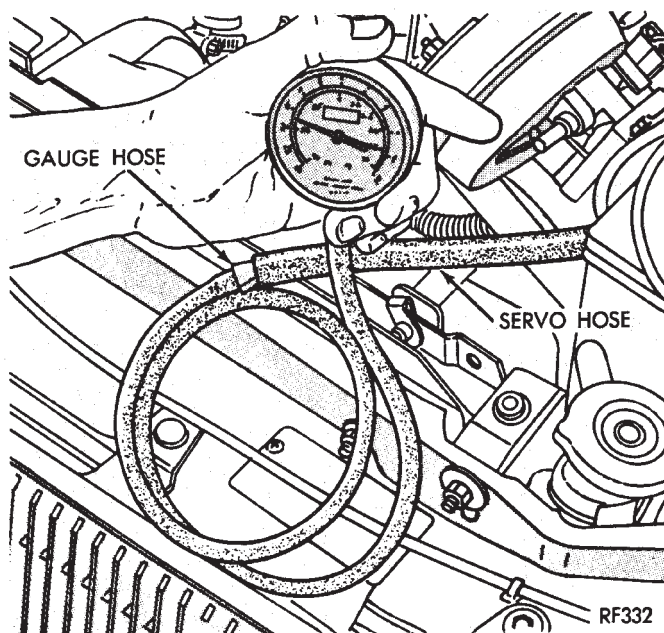

Fig. 12 Vacuum Gauge Test
(1) Disconnect vacuum hose at the servo and install a vacuum gauge in the hose (Fig. 12).
(2) Start engine and observe gauge at idle. Vacuum gauge should read at least ten inches of mercury. Shut off engine, the vacuum should continue to hold 10 inches of mercury.
(3) If vacuum does not meet this requirement, check and correct the following vacuum leaks in the vacuum lines, check valve, vacuum reservoir or poor engine performance.